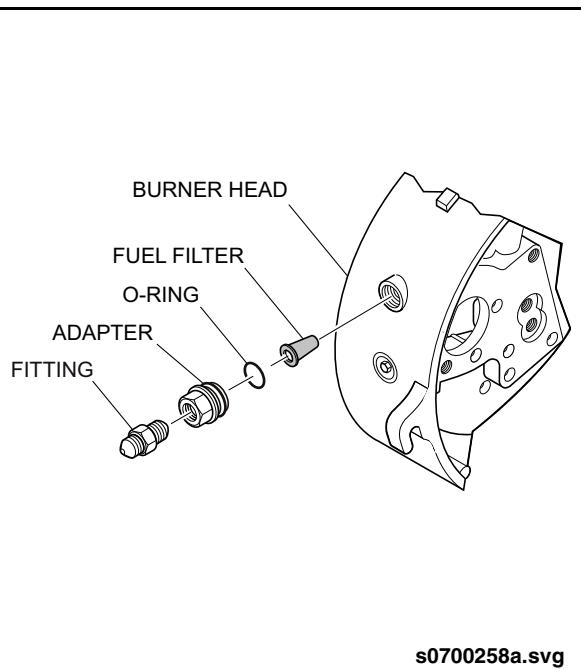

Fig. PM-48: Proheat Fuel Filter
5. Remove and inspect filter. Clean or replace as necessary. See "Fig. PM-48: Proheat Fuel Filter" on page 101.